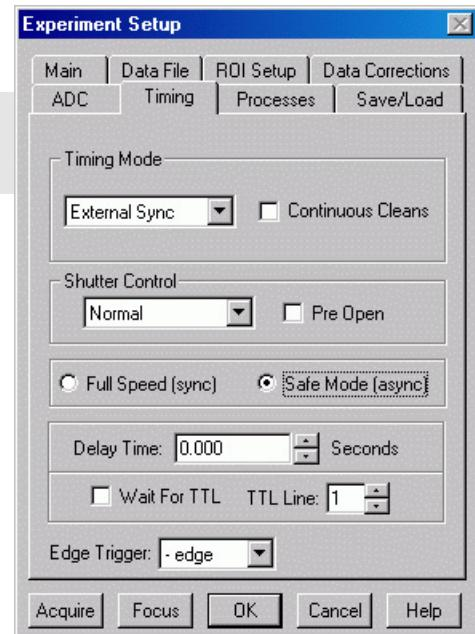

Figure 32. Experiment Setup dialog box
3. On the **Timing** tab page (Figure 32) set the following parameters.